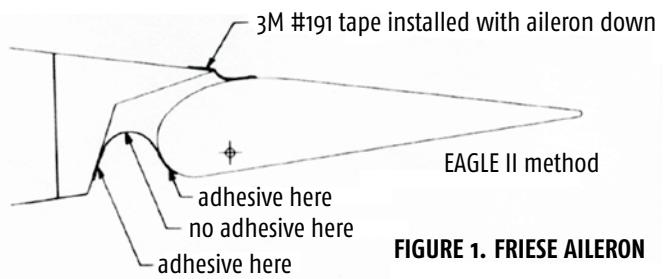

FIGURE 1. FRIESE AILERON
**ANSWER**—All of the newer Pitts aircraft come with a symmetrical aileron airfoil section. Earlier Pitts and the Eagle II use a friese type aileron. With the friese aileron it is very easy to seal the gap. Figure 1 shows the two popular methods.